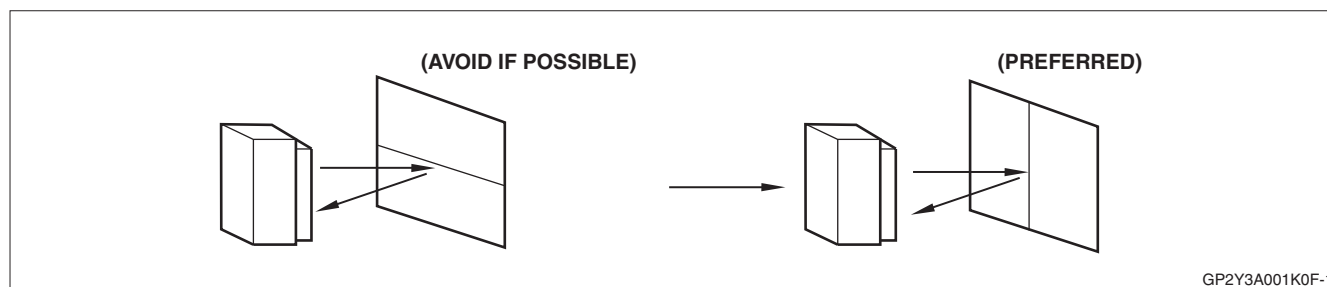

Figure 5. Proper Alignment to Surface Being Measured
- If a prominent boundary line exists in the surface being measured, it should be aligned vertically to avoid measurement error. See Figure 5 for further details.